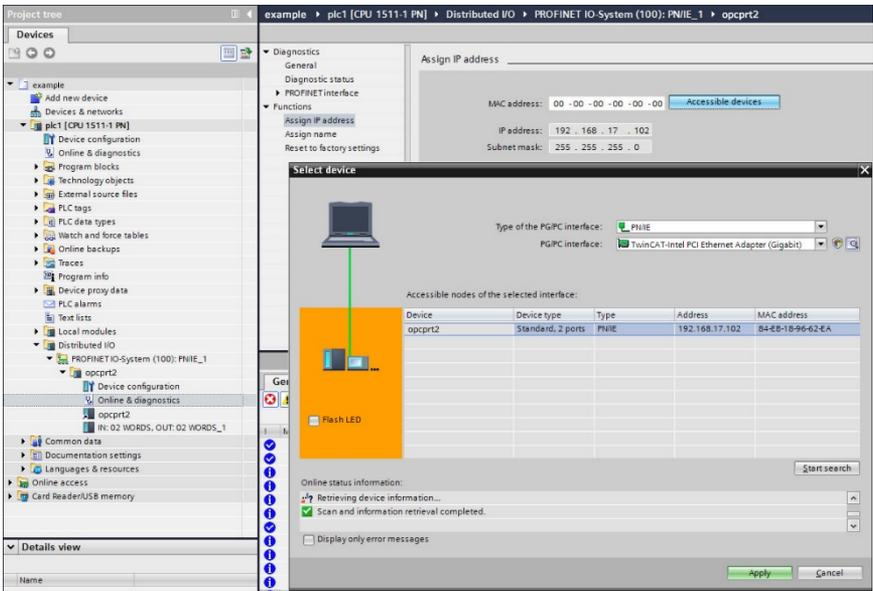

Figure 53: Discover PROFINET Devices on the Network
In the **Project tree**, expand **plc1...Distributed I/O...PROFINET IO-System (100):PN/IE_1**. Expand the device and double-click **Online & diagnostics**. In the next panel, expand **Functions** and select the **Assign IP address** node. Click the **Accessible devices** button. Select the appropriate **PG/PC interface** and click the **Start search** button to discover and display the PROFINET devices on the network as shown in Figure 53. Select the device and click the **Apply** button.